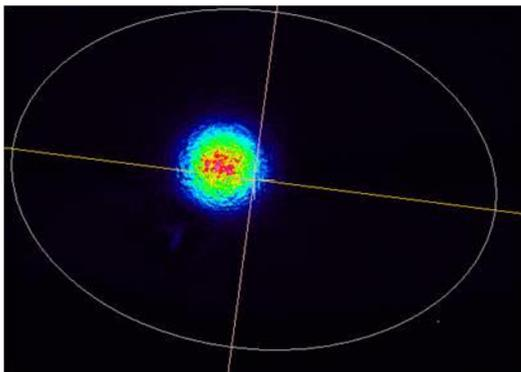
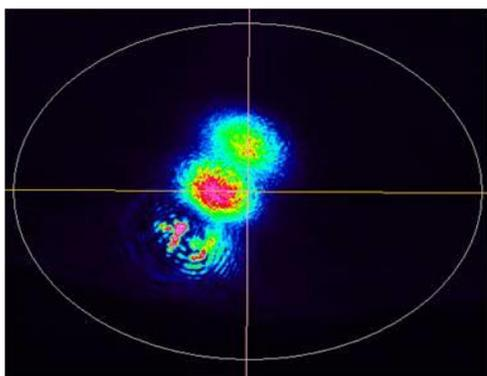

Figure 6: Satisfactory Beam Profile
Figure 7: Undesired Higher Mode
- 3.12. Observe the laser mode. A beam profile depicting the desired TEM_{00} mode is shown in Figure 6, while an undesired higher mode (note the non-Gaussian pattern) is shown in Figure 7. If the laser mode is satisfactory, and the problem is low laser power, the optics may be contaminated. It is recommended that the user proceed to later sections of this document to pursue optics cleaning or replacement, per the
- 3.16. Turn on the laser without the flow system running. While turning the Allen drivers slightly, less than 1/16th of a turn, observe the laser modes on the beam scan display. Adjust both drivers until the SP2 YAG laser mode shows TEM_{00} , as depicted in Figure 6. One driver will move the modes (the pattern of maxima and minima) in the vertical direction, and the other in the horizontal direction. Once the laser mode is adjusted, carefully remove the drivers while observing the mode on the display to insure that removing the drivers does not change the coupler alignment.